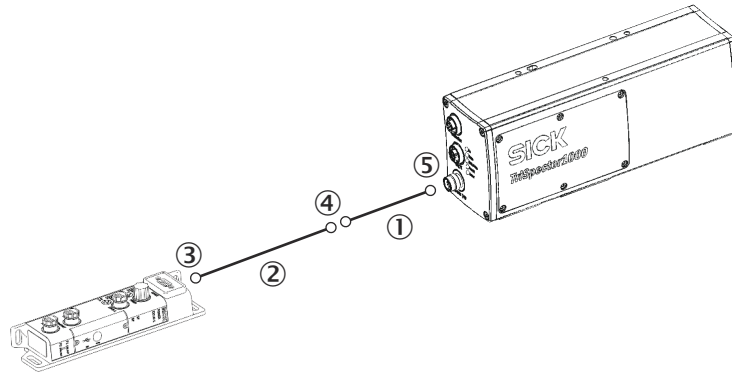

Figure 48: Connecting the TriSpector1000 to the CDF600-22xx by pre-assembled cables
1. Connect the TriSpector1000 to the CDF600-22xx by a connection cable (e.g. part no 2055419) and a cable adapter (part no 2086398) according to figure 48.